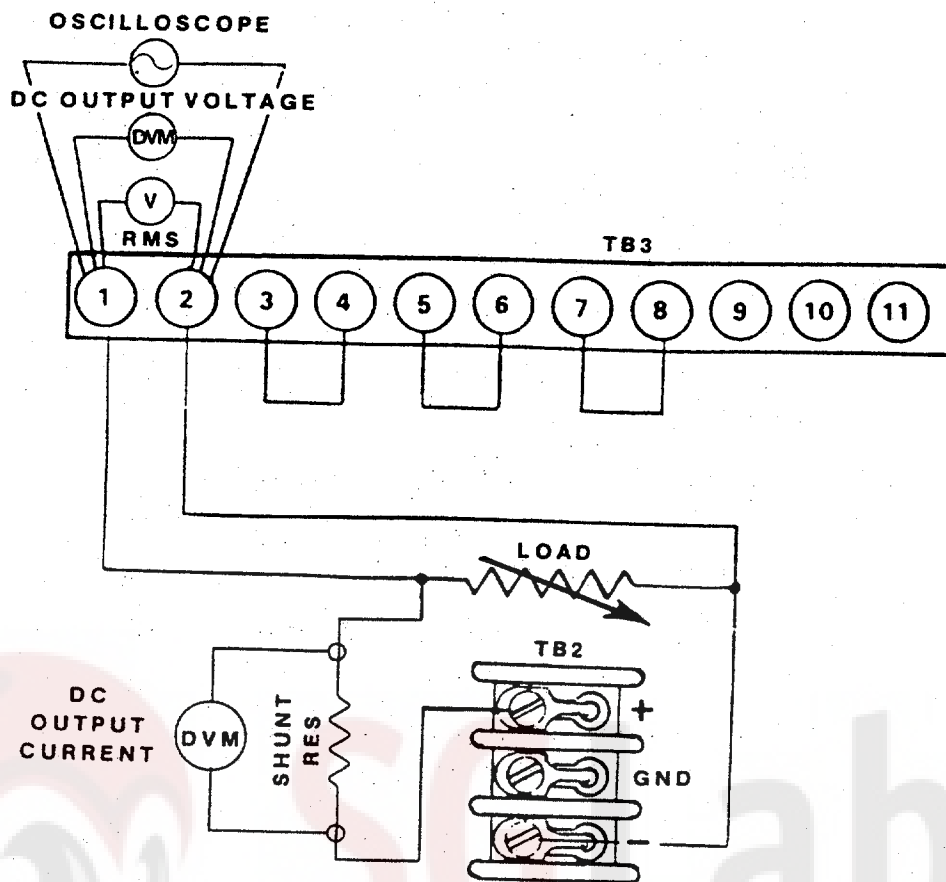

Figure 5-1 Performance Test Setup
1. Connect a sensitive digital voltmeter and an RMS ac voltmeter across unit output terminals per Figure 5-1. Select a current shunt per Table 5-2 with a DVM for current output readings.